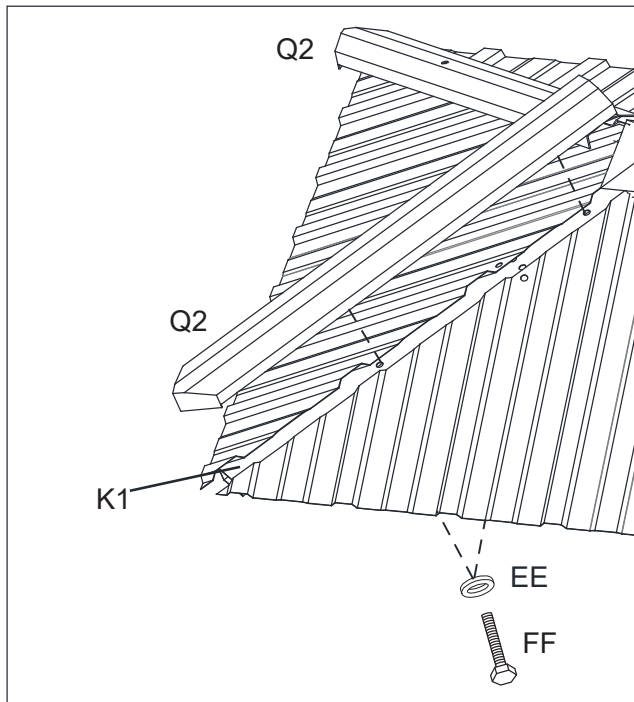

Figure 12-1
12.1: Attach the Roof Vent Corner Trim (Q2) to the Roof Vent Corner Support (K1) using Bolt (FF) and washer (EE). See Figure 12-1.